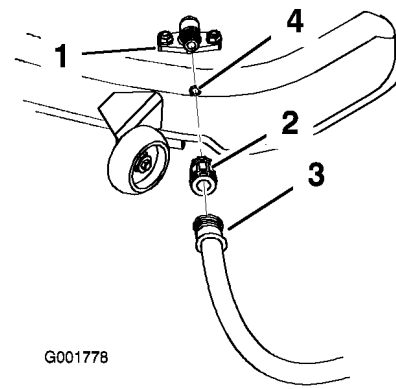

Figure 52
4. Attach the hose coupling to the end of the mower washout fitting, and turn the water on high (Figure 52).